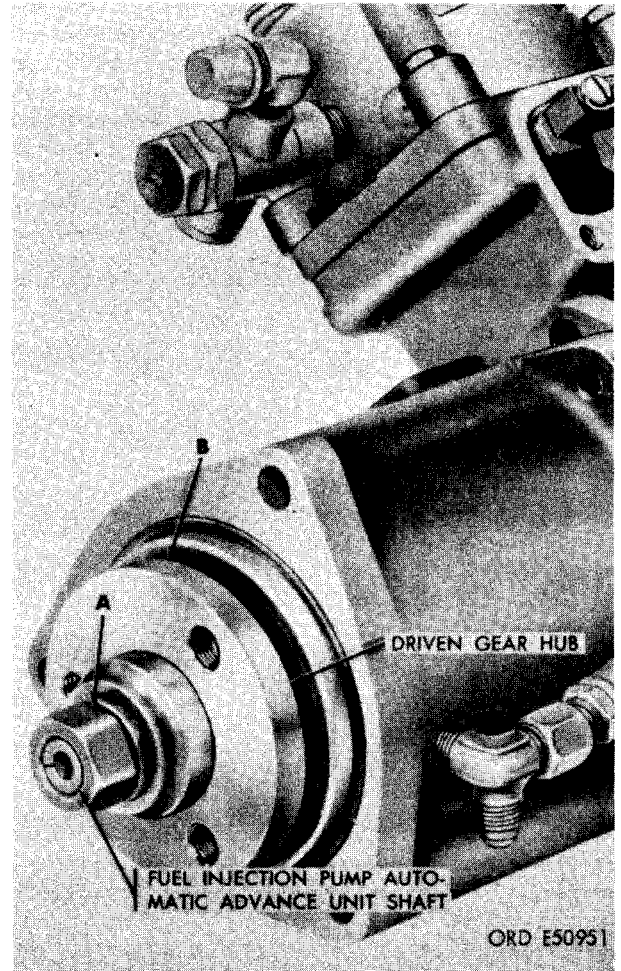
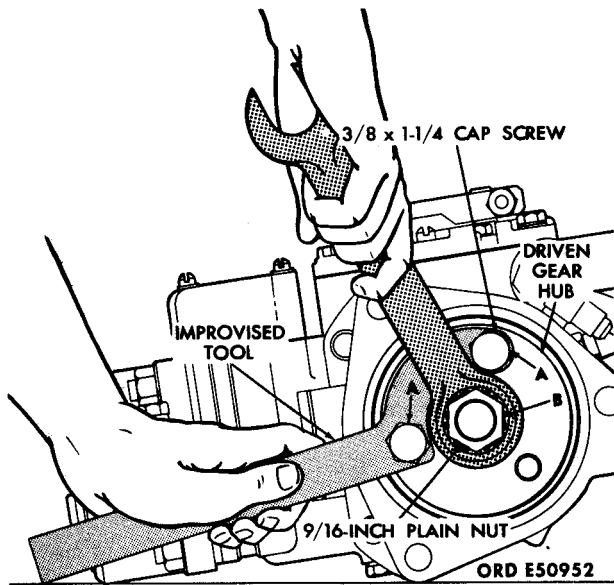

FIGURE 72. REMOVING OR INSTALLING FUEL INJECTION PUMP DRIVEN GEAR HUB.
FIGURE 73. REMOVING OR INSTALLING PLAIN NUT FROM FUEL INJECTION PUMP ADVANCE UNIT SHAFT.
- (19) Figure 72. (A) Remove 9/16-inch plain nut and 9/16-inch lock washer from fuel injection pump automatic advance unit shaft using improvised tool (fig. 38) as shown in figure 73. (B) Remove fuel injection pump driven gear hub from shaft using a suitable puller.
(20) Figure 73. (A) Install two 3/8 x 1- 1/4 cap screws through the holes in curved portion of improvised tool and into two tapped holes in driven gear hub. (B) Remove 9/16- inch plain nut and lock washer from shaft, holding driven gear hub stationary with improvised tool while turning nut.
- (3) Install fuel injection pump driven gear hub Refer to figures 72 and 73 and reverse the sequence of instructions to install the fuel injection pump driven gear hub.